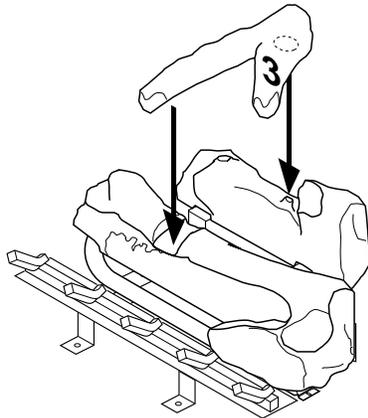

Figure 59 - Installing Log No. 3
3. Place log #3 (crossover log) onto the rear and front logs. Make sure it is seated properly into the notch on the front log and over the raised triangular portion of the rear log as shown in Figure 59.